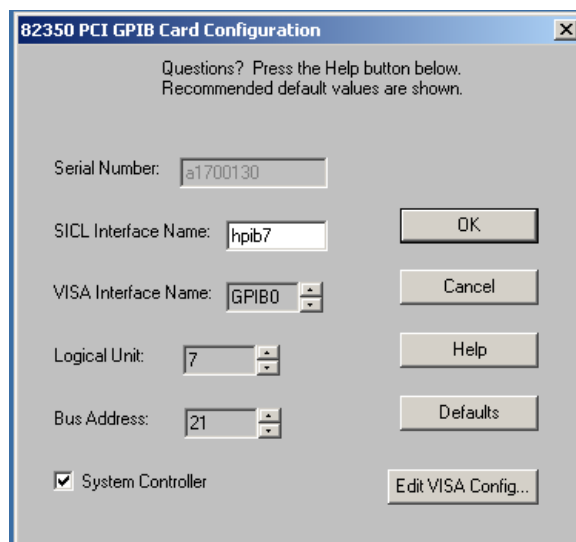

Figure 1-8 Bring up Show Devices Dialog
- 6 At the bottom of the **82350 PCI GPIB Card Configuration** dialog, press **Edit VISA Config...** See Figure 1-8. The **Show Devices** dialog appears.